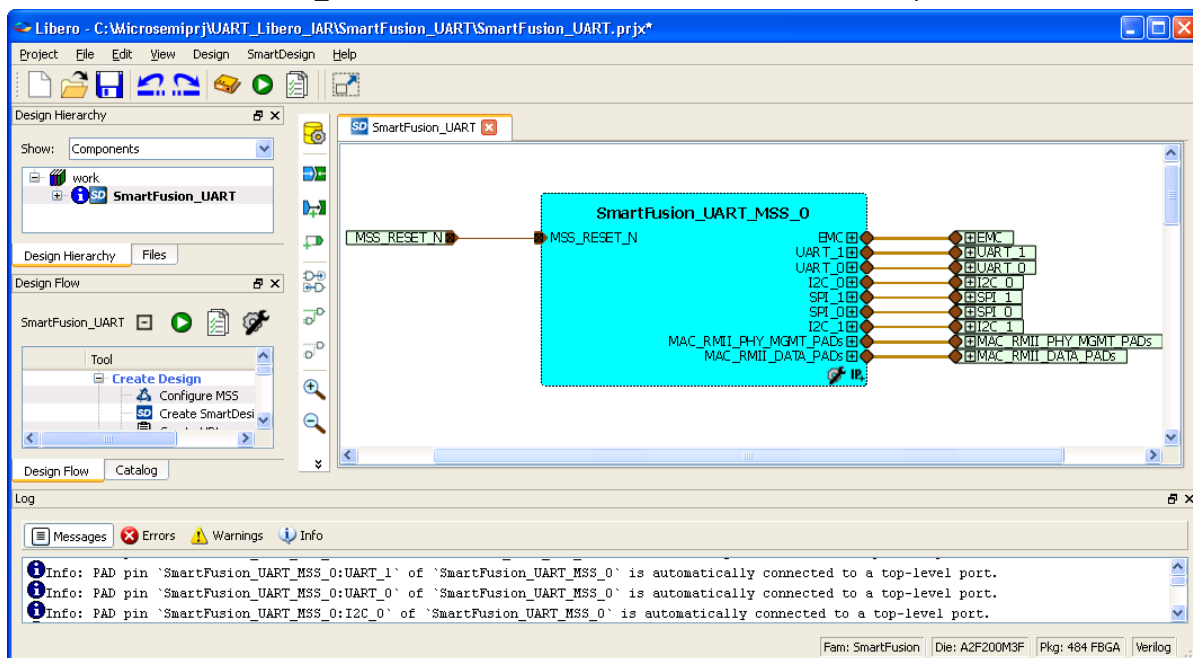

Figure 4 · The Libero SoC Window After Completing New Project Wizard
- The project is created and the Libero SoC window appears, as shown in Figure 4 . The SmartDesign “SmartFusion_UART” is created with the instantiation of the MSS component.